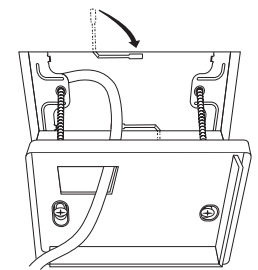

Fig.5
7. Return parts (A) and (B) through the gap between the ceiling and Signal receiving unit so that they are contained in the openings. Then tighten the screws. Do not tighten the screws excessively. This may result in damage or deformation of the case. Tighten to the point where the Signal receiving unit can be moved slightly by hand. (Fig. 5)